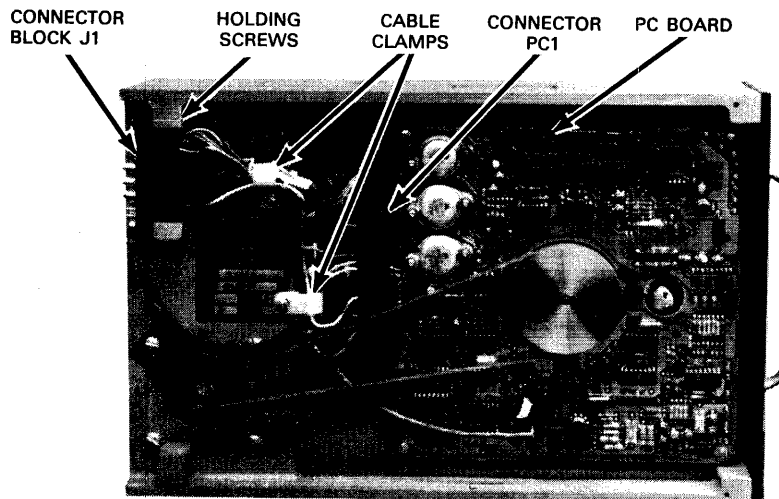

Figure 5-2. Harness Assembly Removal and Replacement
2. Disconnect all actuator and transducer leads which are not part of harness assembly (Figure 5-2). Disconnect cable clamps as required.
1. Position connector J1 on baseplate and secure with four retaining screws (Figure 5-2).